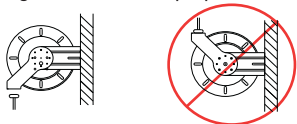

Figure 3, Correct and Incorrect Wall Mounting
- See Figures 3 and 4 for proper hose reel orientation: